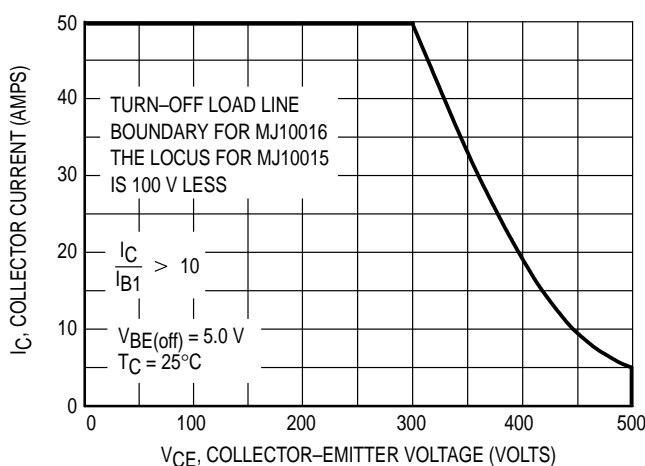

Figure 8. Reverse Bias Switching Safe Operating Area
* Adjust $-V$ such that $V_{BE(off)} = 5 \text{ V}$ except as required for RBSOA (Figure 8).
For inductive loads, high voltage and high current must be sustained simultaneously during turn-off, in most cases, with the base to emitter junction reverse biased. Under these conditions the collector voltage must be held to a safe level at or below a specific value of collector current. This can be accomplished by several means such as active clamping, RC snubbing, load line shaping, etc. The safe level for these devices is specified as Reverse Bias Safe Operating Area and represents the voltage-current condition allowable during reverse biased turn-off. This rating is verified under clamped conditions so that the device is never subjected to an avalanche mode. Figure 8 gives the complete RBSOA characteristics.